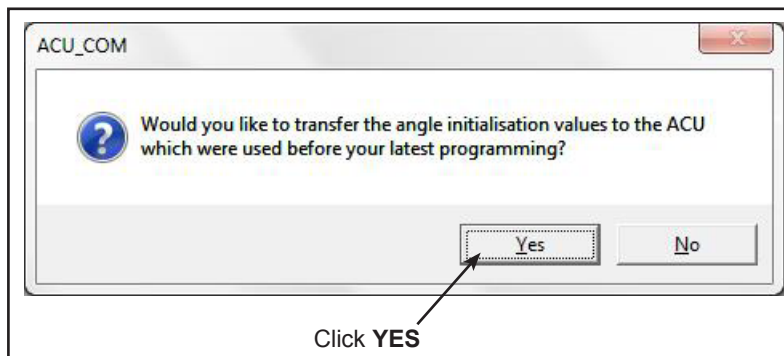

Figure 11 - Initialisation Values Pop-Up Window
1.18. A third pop-up window will appear, asking whether to keep the initialisation values. See Figure 11. Click **YES**.